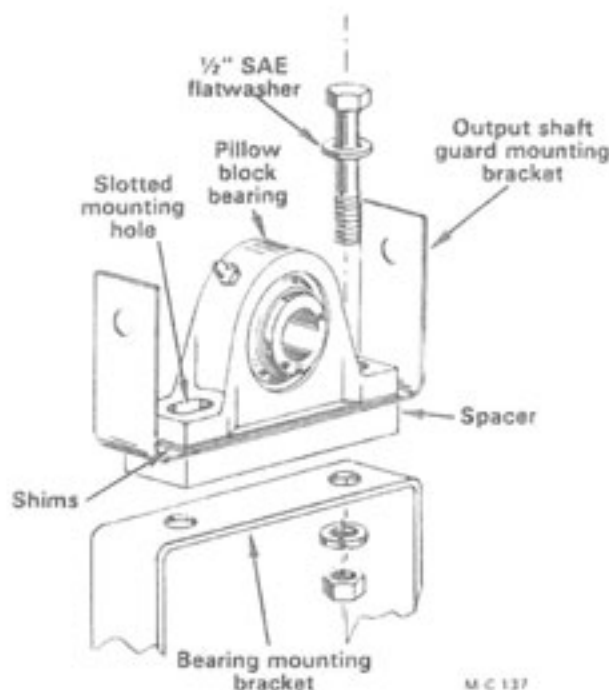

Figure 33
6. Remove the two bearing lock collar set screws, two capscrews, lockwashers and hex-nuts securing the output shaft bearing. Lift up on the output shaft and remove the spacer, output shaft guard bracket and shims from under the output shaft bearing, see Figure 33.
11. Lift up on the output shaft and place the spacer, output shaft guard bracket and shims on the output shaft bearing mounting bracket, see Figure 33. Install the capscrews, SAE